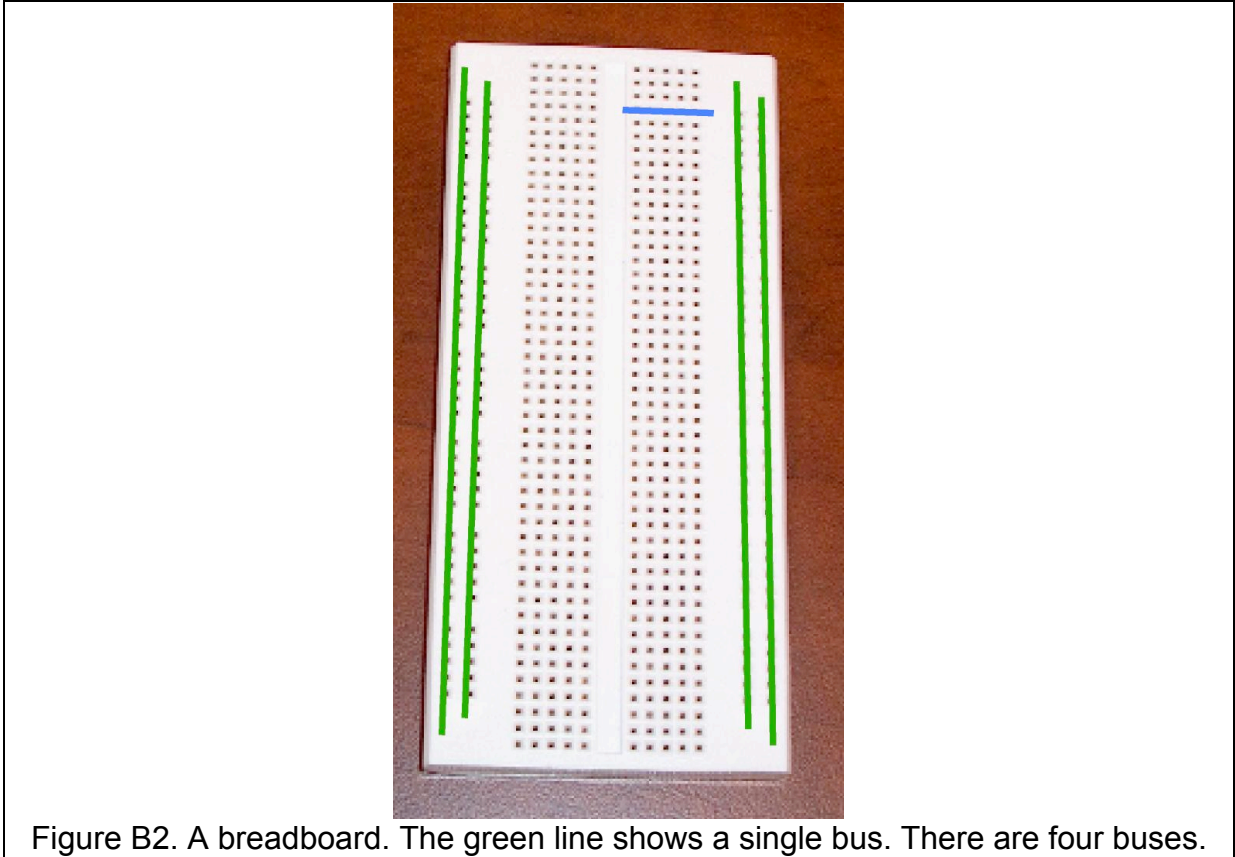

Figure B2. A breadboard. The green line shows a single bus. There are four buses.
- a. The breadboard, Figure B2, consists of 4 long columns of holes (two along each long edge) and many pairs of rows. The hole in each column are connected together, such that a wire inserted in any hole in a column will be electrically connected to any wire connected to any hole *in the same column*. Each column is called a "bus." Each row of five holes is also connected (blue line in the figure). The rows are *not* connected across the trough down the middle of the board.